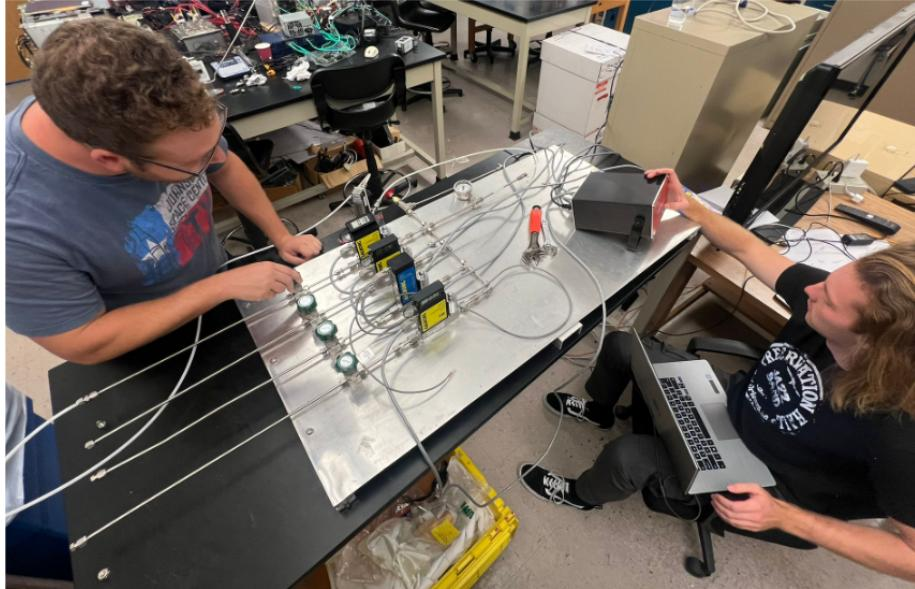

Figure 1: The GMS with its CM and four MFC channels
The GMS is shown below in figure 1 and its individual parts are labeled. The Command Module (CM) is wired to GMS's four Mass Flow Controllers (MFCs). Each MFC is specifically calibrated for a different gas, which can be seen on its label. The specifics of each channel are shown in